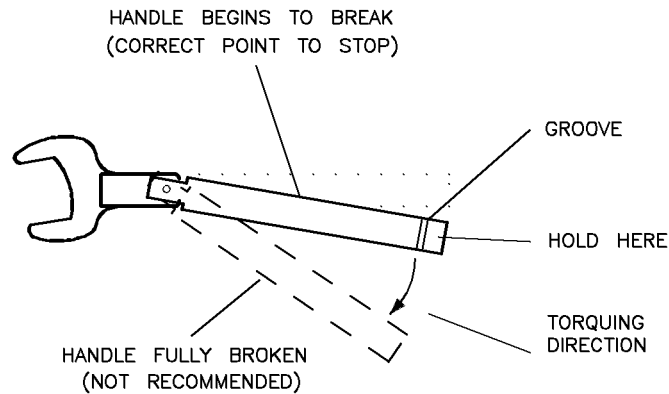

Figure 4-14. Using the Torque Wrench
3. Hold the torque wrench lightly, at the end of the handle only (beyond the groove). (see Figure 4-14).
5. Tighten the connection just to the torque wrench “break” point (see Figure 4-14). Do *not* tighten the connection further.